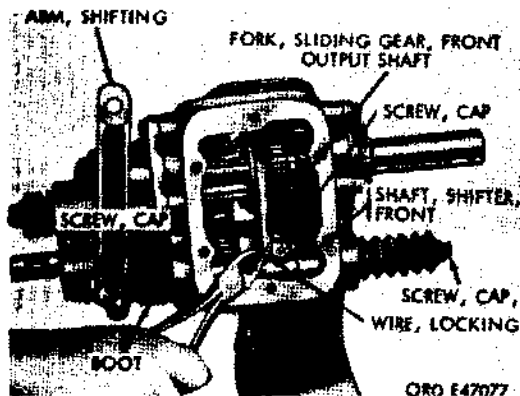

Figure 287. Power takeoff cover removed
- (b) Loosen safety nut from shifting arm (fig. 287) and remove arm. Remove cap screws and plain washer from end of front shifter shaft. Use side cutters and cut locking wire from cap screw at front output sliding gear fork, and remove locking wire and cap screws. Pull front shifter shaft out through rear of case and remove front-output-sliding gear fork from case. It is not necessary to remove front-
- (b) Slide front shifter shaft (F) in opening at rear of case with the end opposite step - cut in first. Be careful not to damage oil seal when pushing front shifter shaft in case. Position front output shaft sliding gear fork (K) in case on front output shaft sliding gear (U) and press shaft through sliding gear fork until one of the poppet ball milled slots in the shaft is visible through the ball spring retainer opening in case. Position fork on shaft and align slot in shaft with fork. Install cap screw (L) and locking wire holding fork on shaft.
- (c) Install ball (J), front shifter-shaft ball compression spring (H), and spring retainer (G) in case, making certain the ball engages the milled slot in shaft. Position cover (L, fig. 294) with new cover gasket (M, fig. 294) on case and install six cap screws (K, fig. 294) and lockwashers (J, fig. 294). If boots (C) and boot retainers (D) were removed, install retainers on boots and press into housing. Install cap screw (A) and plain washer (B) on front end of front shifter shaft (F). Install shifting arm (fig. 287) at rear of shifter shaft and tighten safety nut. Install cap screw in end of shifter shaft to secure shifting arm in position.